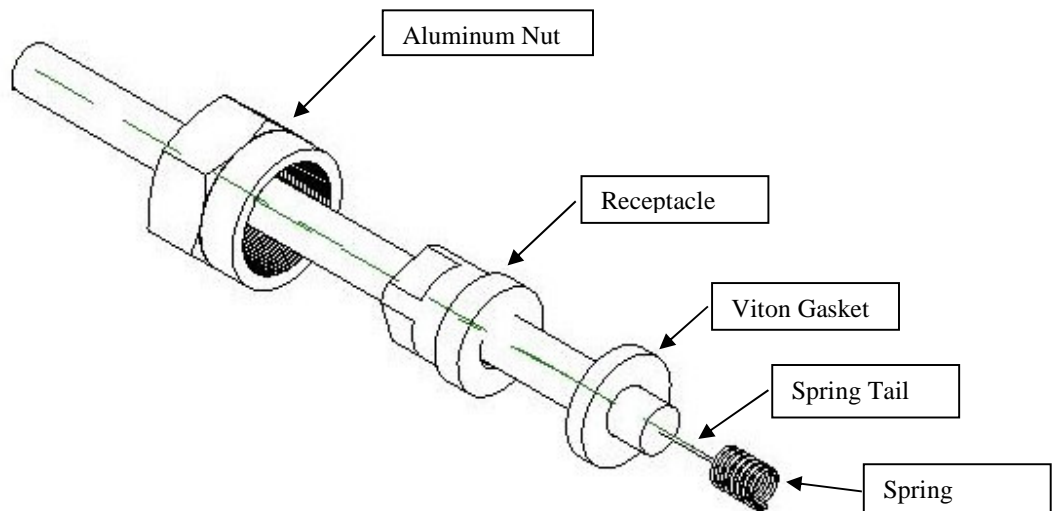

Figure 10: Spark plug wire component stack up.
- i. Route the harness with the round BLACK connector to the Coil Pack and connect. See Figure 10 below for how the harness should look. **CAUTION: There is a noise suppressor capacitor in the harness just below Coil Pack Connector (covered by heat shrink). Use extreme caution when routing this harness. DO NOT make sharp bends in the portion of the harness covered by the heat shrink. Make all bends past the heat shrink tube covered portion of the harness. This will prevent damage to the capacitor. Please call Electroair Tech Support if there are any questions.**